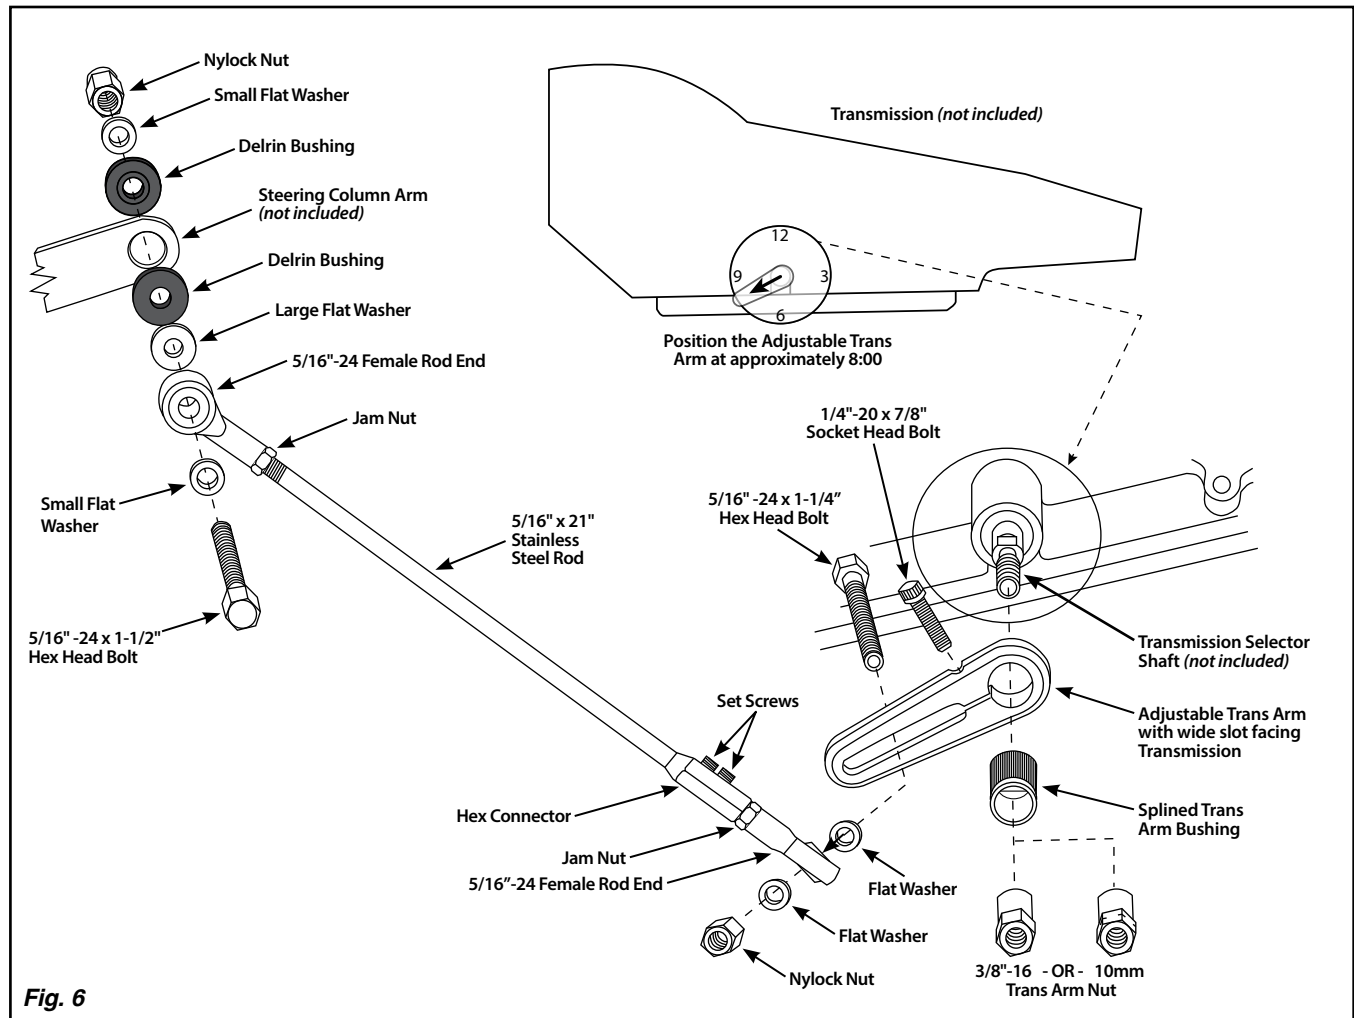

Fig. 6
Install a small flat washer onto the 5/16"-24 x 1-1/2" bolt. Slide the bolt through the 5/16"-24 female rod end. Next, install the large diameter flat washer onto the bolt, and one Delrin bushing facing the proper direction. Insert the bolt through the steering column arm, and install the other Delrin bushing and small flat washer. Secure it all using the 5/16"-24 nylock nut as shown in **Fig. 6**.
Step 8: Slide the hex connector with the second 5/16"-24 female rod end onto the end of the stainless steel rod. Attach the rod end to the adjustable trans arm with the 5/16"-24 x 1-1/4" hex head bolt, two flat washers, and nylock nut as shown in **Fig. 6**. Tighten the nylock nut. Tighten the set screws in the hex connector using a 1/8" Allen wrench, but only enough to mark the stainless steel rod and hold the hex connector in place during the adjustment procedure.